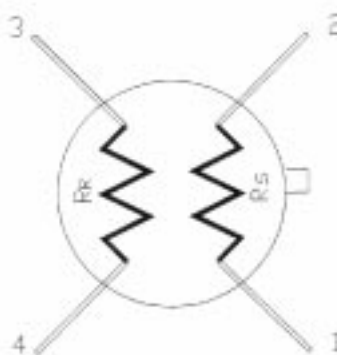

Figure 2: Sensor equivalent circuit (Top View)
■ The sensor chip is electrically connected to a TO39 package by gold wire bonding as indicated on Figure 2.